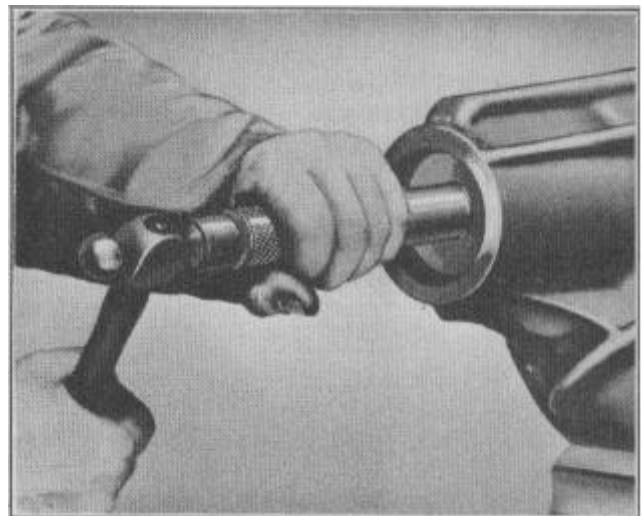
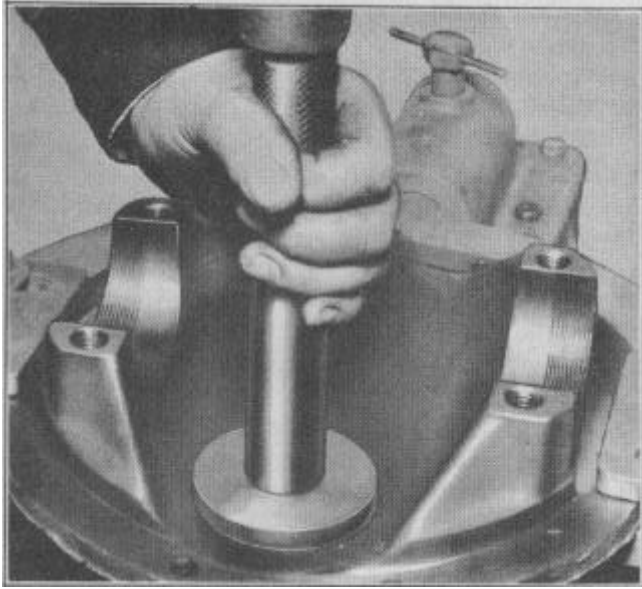

FIGURE 23
FIGURE 24
1. Install front and rear drive pinion bearing cups in carrier using cup replacing tool J-2943 for front cup, Figure 23, and J-2944 for rear cup, Figure 24.